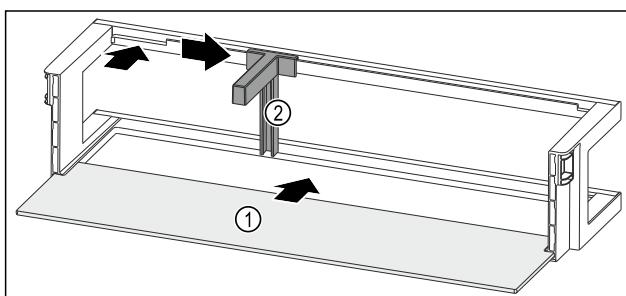

Fig. 121 Door rack with shelf
- ▶ Push the shelf Fig. 121 (1) into the side recesses.
- ▶ Insert the bottle holder Fig. 121 (2) in the recess.
- ▶ Push the bottle holder Fig. 121 (2) to the desired position to the side.